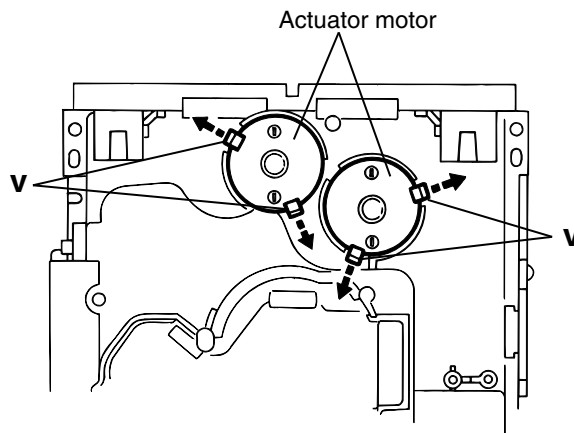

Fig.20
5. After turning over the chassis assembly, remove the actuator motor while spreading the four pawls "v" fixing the right and left actuator motors in the arrow direction(See Fig. 20).